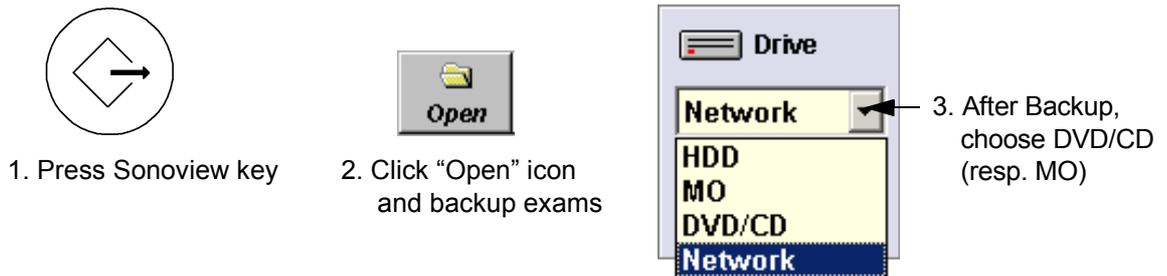

Figure 7-19 To backup exams to DVD/CD+(R)W resp. MO-Disk
- 2.) Enter "Sonoview" by pressing the **SONOVIEW** key on the control panel; see Figure 7-19.